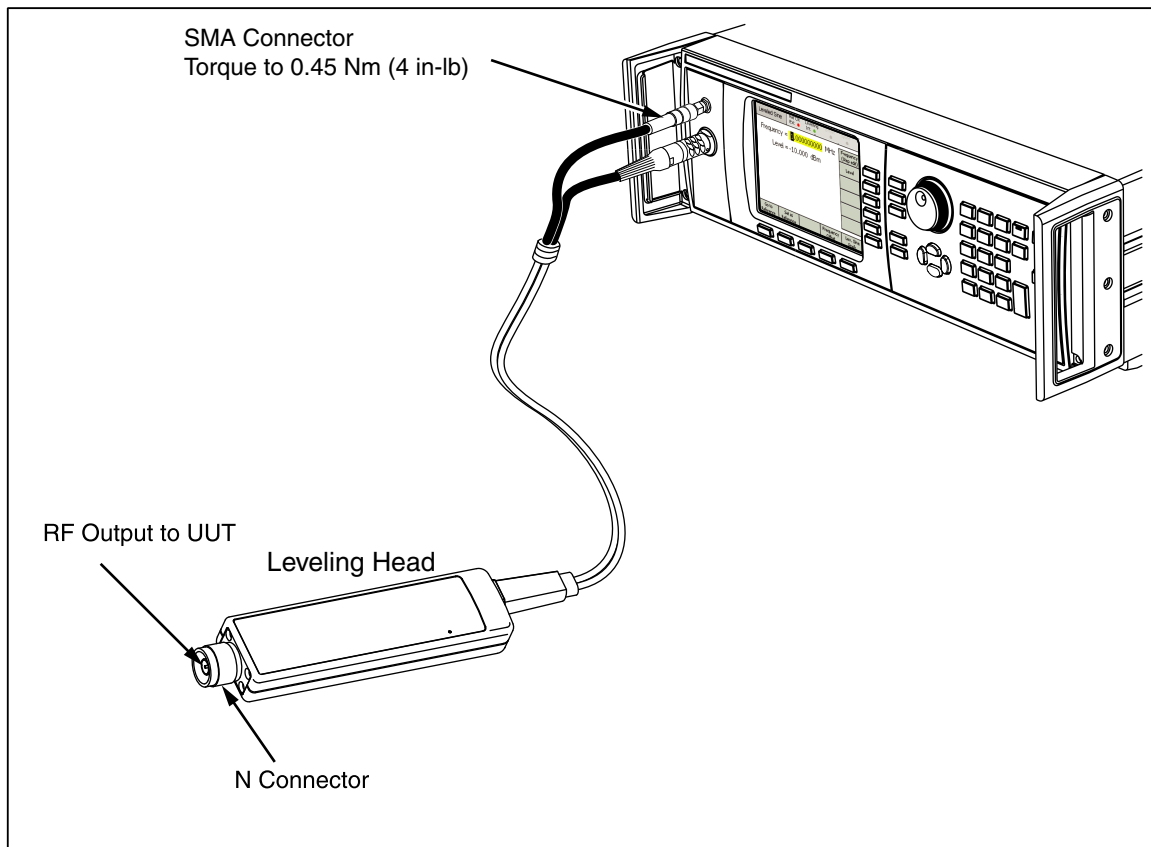

Figure 3-5. Connecting the Leveling Head
2. Refer to Figure 3-5, and connect the multiway connector to the Leveling Head Control connector on the Instrument. Press firmly on the multiway connector until it latches.
3. Refer to Figure 3-5, and connect the SMA connector with the RF Output connector on the Instrument.